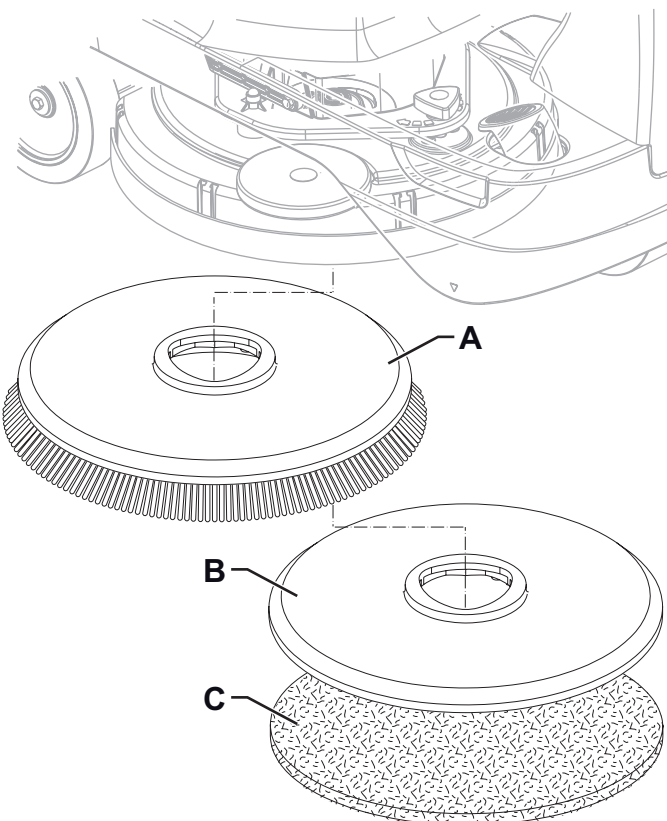

Figure 2
*When starting the machine, or before operating the One-Touch™ push-button (43), make sure that there is no foreign material between the deck and the tank assembly which could obstruct the deck movement. If the machine has been turned off without lifting the deck, the deck would lift automatically at next machine start-up.*
1. According to the kind of cleaning to be performed, the machine can be equipped either with the brush (A, Fig. 2) or the pad-holder (B) with pad (C) together with the appropriate deck.
2. Place the brush (A) or the pad-holder (B) under the deck (7).
3. Insert the operator key (41) in its slot.
4. Press the push-button (43) to lower the deck on the brush.
5. Press the switch (45) to engage the brush.
6. To remove the brush, the deck must be lifted by pressing the push-button (43), then press the release push-button (45).